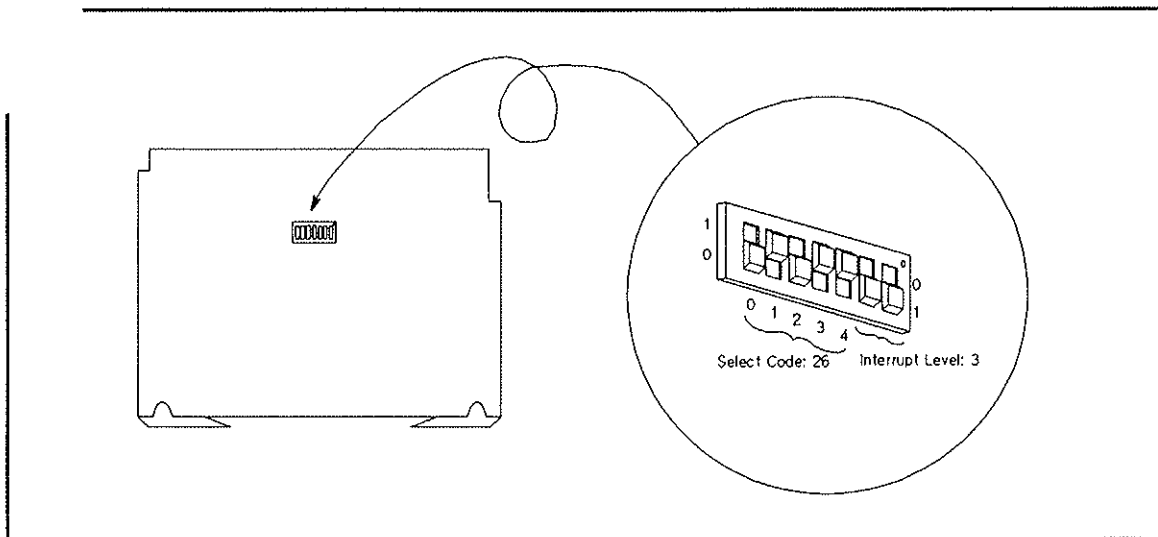

Figure 2-36. VFP Timer Board Settings
2. If an error occurs, check the switch settings (select code and interrupt level) of the VFP timer board. Figure 2-36 shows the correct settings.